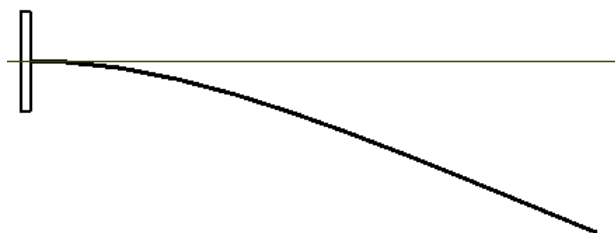
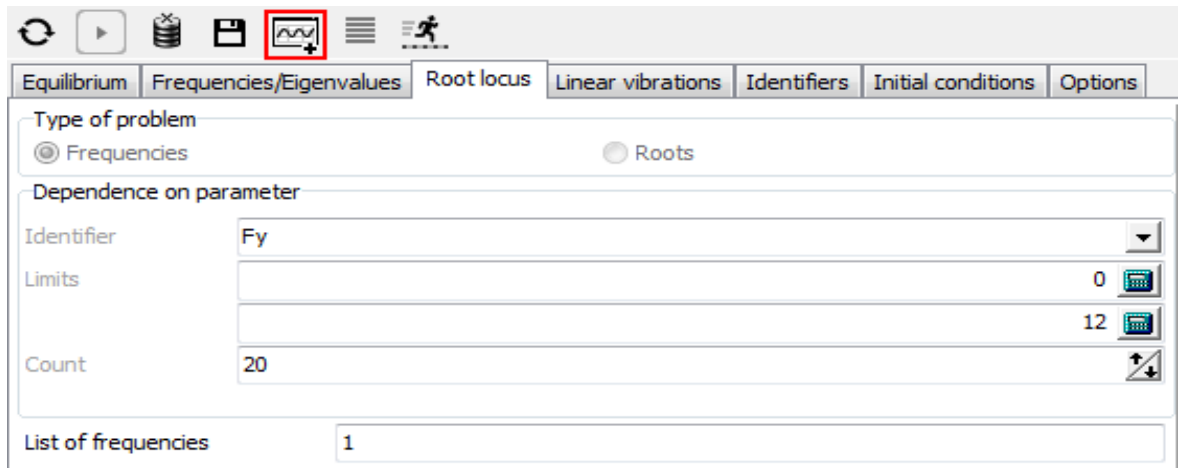
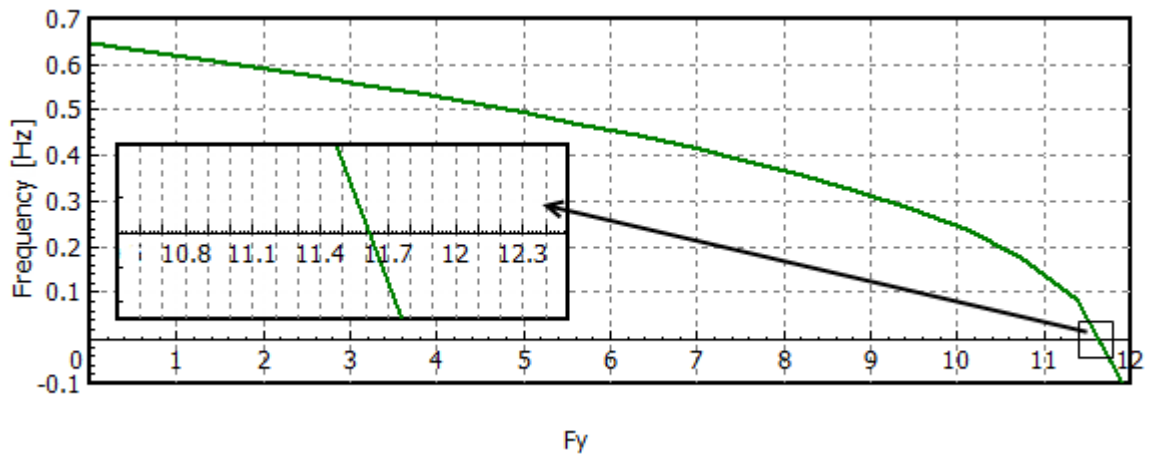

Figure 3.9. Beam in the equilibrium position
Figure 3.16. Construction of root locus
Figure 3.17. Dependence of the first eigenfrequency of the beam on the magnitude of the compressive force
3. Go to **Equilibrium** tab and click **Run computations** . After the calculation the beam in the animation window will be in the equilibrium position, Figure 3.9.
Run *static and linear analysis* tool. Go to **Root locus** tab. In **Type of problem** select **Frequencies**. In **Identifier** field choose **Fy**. In **Limits** fields assign the limits of variation of identifier. In the upper field (initial value), enter **0**, in the lower field (final value), enter a value slightly bigger than the critical force, for example, **12**. In the **Count** field set **20**, i.e. 20 calculations will be performed with an equal increment value of the specified identifier. Go to **Options | General options** tab. In **Equilibrium computation type** group set **Solving equations** as a method of determining the equilibrium position, Figure 3.9. Click **Run computations**  button. After the calculation is completed, plot the dependence of the first natural frequency of the beam on the value of the identifier **Fy**, by clicking  in *static and linear analysis* window, Figure 3.16. The intersection of the hodograph with the  $x$ -axis corresponds to the loss of stability, Figure 3.17. A comparison of the analytical and numerical solutions shows their proximity.